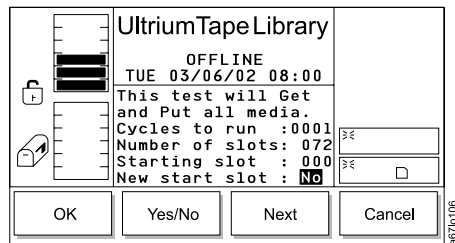

Figure 274. New Start Slot Dialog
- a. Press the button below the **Next** softkey until the selection cursor highlights the **New start slot** field. The New Start Slot Dialog displays (see Figure 274 on page 197).